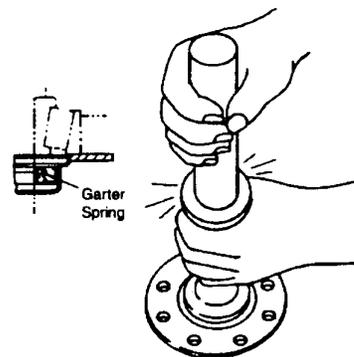

Figure 1C
- E. Figure 1C--Position seal squarely in seal cage with the garter spring towards the bearing. Place a square ended cylindrical tool against the seal and press or lightly tap the tool (not the seal) until the seal is seated in the seal cage.